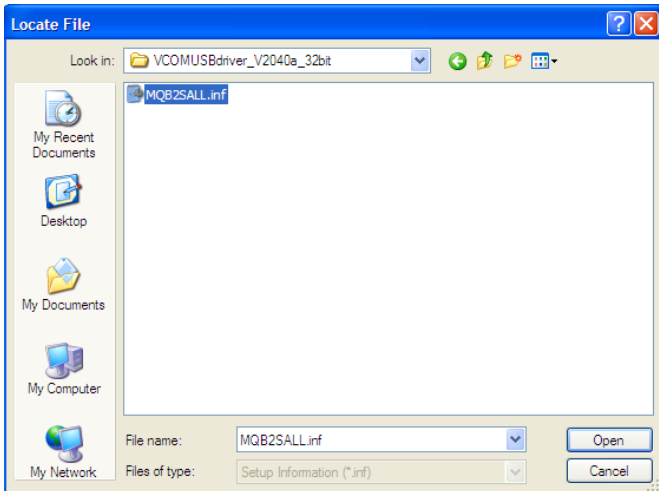

Figure 7. Open Hardware Driver
8. Find **MQB2SALL.inf** in **VCOMUSBdriver_V2040a_32bit** or **VCOMUSBdriver_V2040a_64bit** according to your PC OS, select it and click **Open** (See Figure 7).